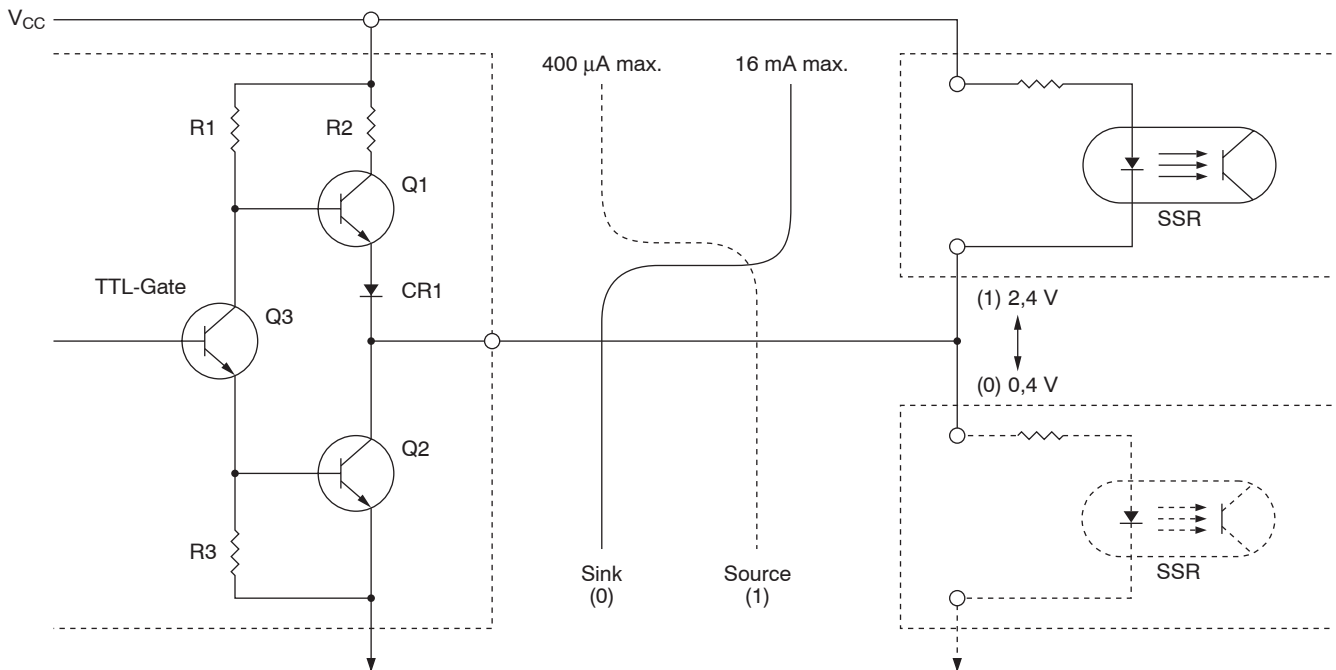

Fig. 6: Typical circuit of a TTL gate driving SSR
The activating signal may be derived from mechanical contacts or solid state devices such as those shown in figure 6 The minimum supply voltage through these contacts may be equal to the SSR turn-on voltage (3 volts dc typical), whereas the positively or negatively referenced transistors require a minimum supply voltage a few tenths of a volt above the specified turn-on threshold, say 3.5 volts
The relationship of the TTL gate to an SSR is illustrated schematically in Fig. 6. In this configuration the SSR supply voltage and the gate V_{CC} should be common and comply with the TTL specified limits of say 5 volts \pm 10%. It can be seen that with a positively referenced SSR and the gate at logical (0), Q2 is operating much like a discrete NPN transistor in the grounded-emitter saturated state. In this mode the gate can sink up to 16 mA with
It should be noted that the 2.4 volt gate output in the logical 1 state relates only to a negatively referenced load. It does not represent a voltage source to a positively referenced load (SSR), where it would appear to be greater than the off state voltage. Referring again to Fig. 6, Q2 would be off and CR1 is reverse biased, thus presenting essentially an open circuit with virtually zero potential across the SSR.
The off state leakage current in the driving semiconductor shown in Figs. 6 to 8 is significant, just a few microamperes, which could not possibly turn on the SSRs. However, the off state (output leakage current of any packaged solid state driving device (e.g. temperature controller, etc.) should first be checked for compatibility with the SSR.